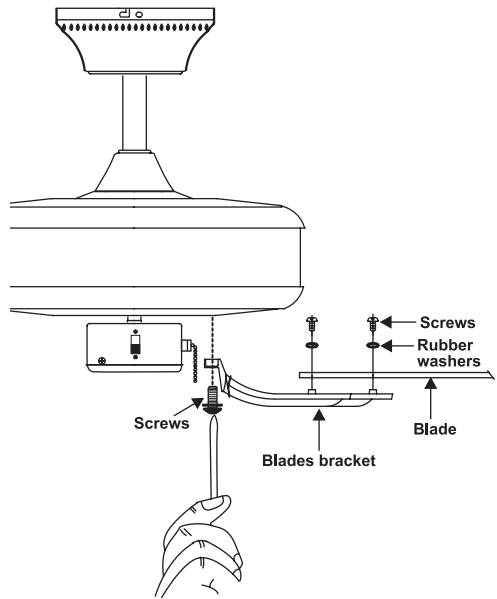

Figure 16
Step 1 Attach the blade to the blade bracket using the screws and rubber washers as shown in Figure 16. Start screw into bracket. Repeat for the two remaining screws.
Step 3 Fasten blade assembly to motor using the screws supplied. (Fig. 16)